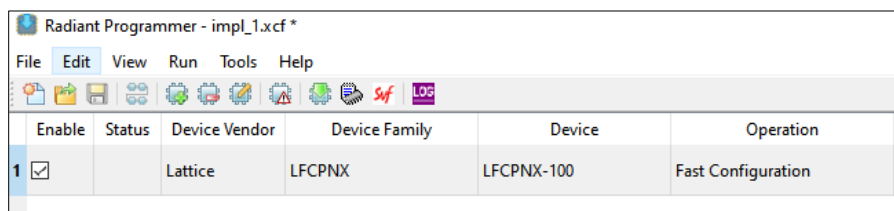

Figure 6.11. Device Selected for Programmer
- Click on the highlighted item under the **Device** field to un-highlight it as shown in Figure 6.11.